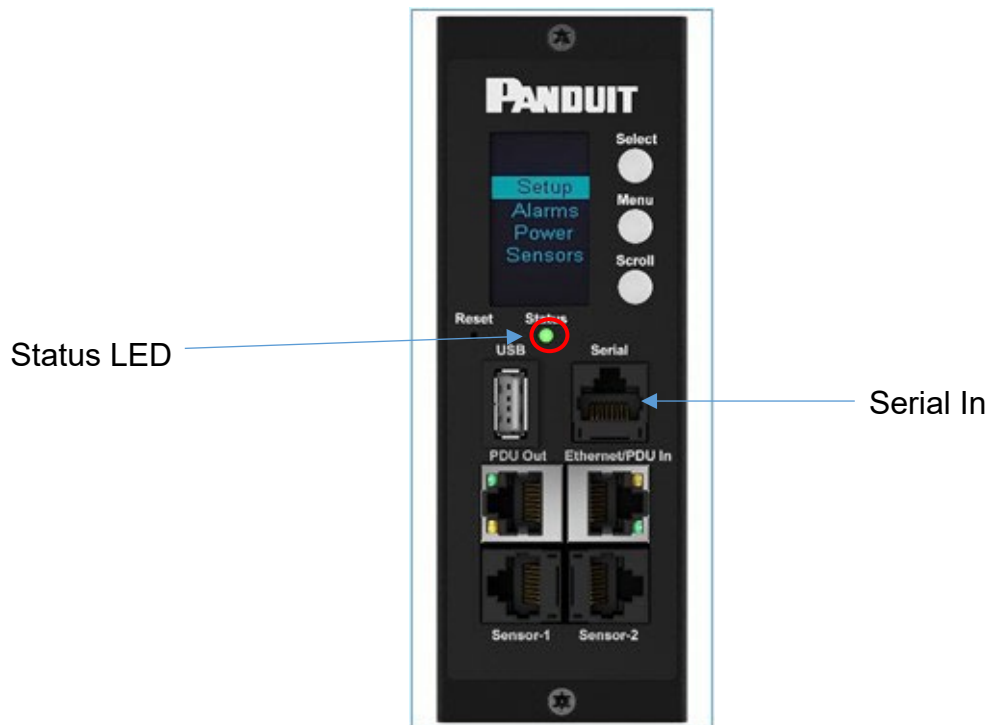

Figure 2: Status LED & Serial In Port Identified
3. Verify access to the Web interface. The Ethernet LED on the PDU front panel provides communication status by color and display activity (see Figure 2).